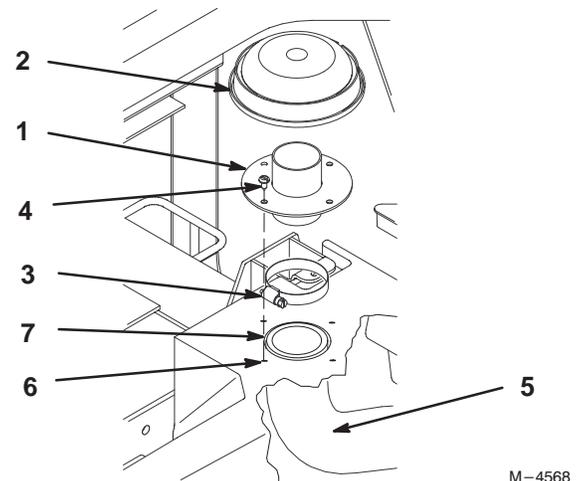

Figure 15
1. Install a hose clamp onto end of air intake hose. Insert flange connector in to intake hose. Tighten hose clamp (Fig. 15).
3. Using flange connector as a template, mark and drill 3/32" pilot holes into plastic console (Fig. 15).
4. Screw 5/16" x 3/4" (19 mm) screws into the flange connector and plastic console (Fig. 15).